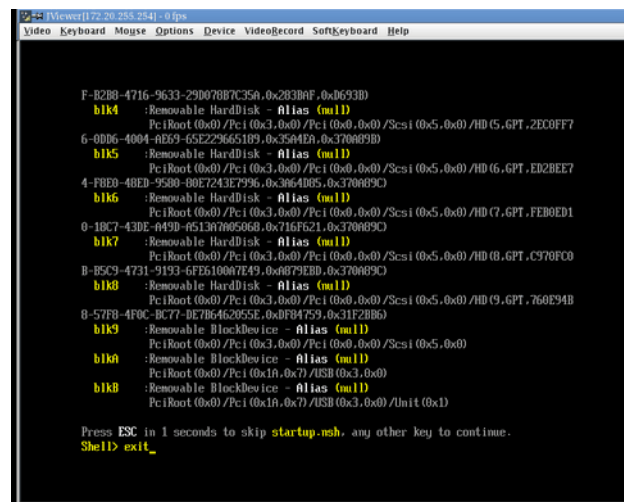

Figure 3-17 KVM JViewer Shell Prompt Screen
- When the system gets to the EFI prompt, enter `exit` to get to the BIOS setup screen, as shown in Figure 3-17 on page 57.